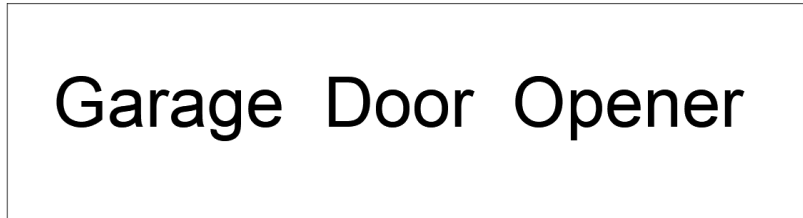

Figure 22
**NOTE:** Make sure the photo beam has been correctly installed and use Normally Closed contacts to the accessory terminals of the opener (Fig. 22, Fig.23)
The O/S/C facility can be used for an external push button switch to operate the opener. The switch must have voltage free normally open NC contacts (Fig. 22)
### **Photo beam connection (optional) – Fig.22, Fig.23**
### **Switch control connection (optional) – Fig.22**
1. The O/S/C interfaces available. (Fig. 22)